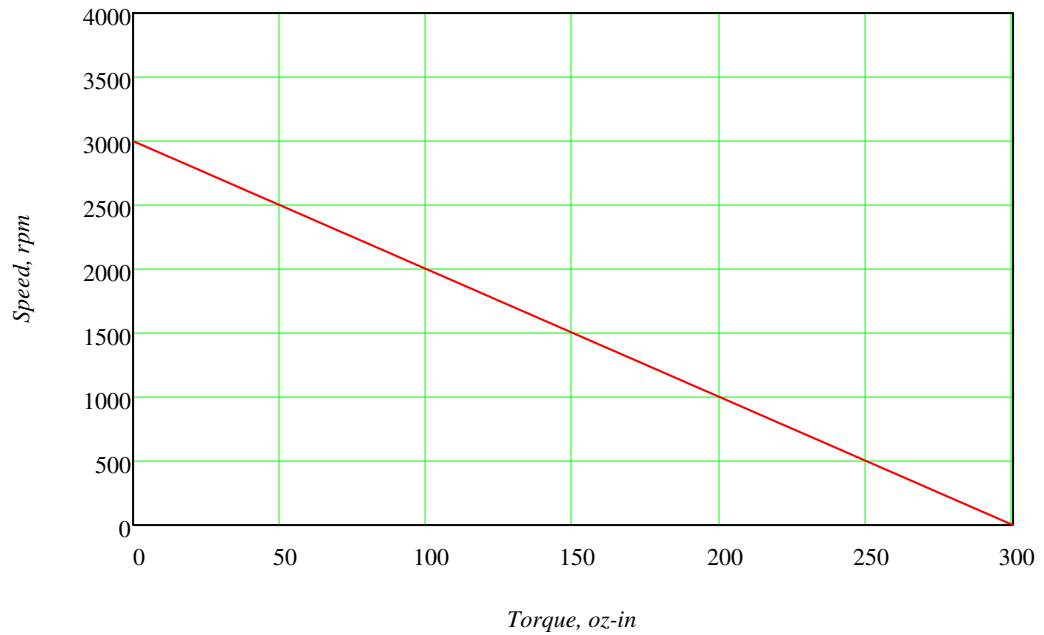

Figure P2-3 Torque-speed Characteristic of a 1/8 HP, 2500 rpm PM DC Motor
- Statement:** The torque-speed curve for a 1/8 hp permanent magnet (PM) DC motor is shown in Figure P2-3. The rated speed for this fractional horsepower motor is 2500 rpm at a rated voltage of 130V. Determine:
**Solution:** See Figure P2-3 and Mathcad file P0220.